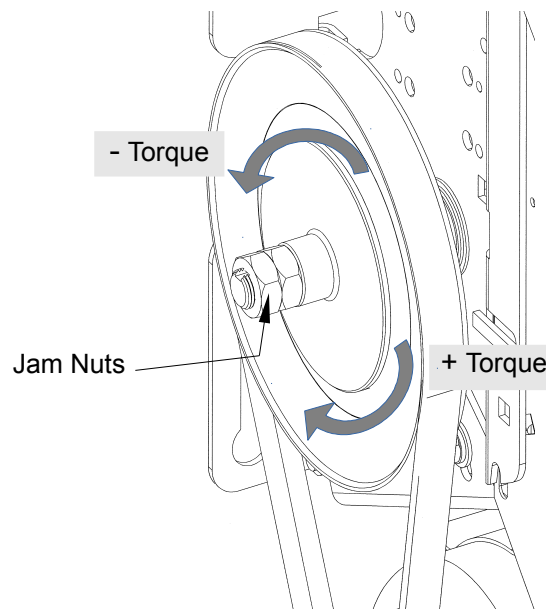

Figure 37 - Clutch Adjustment
1. Unlock the jam nuts with two (2) 15/16" keys, refer to Figure 37.